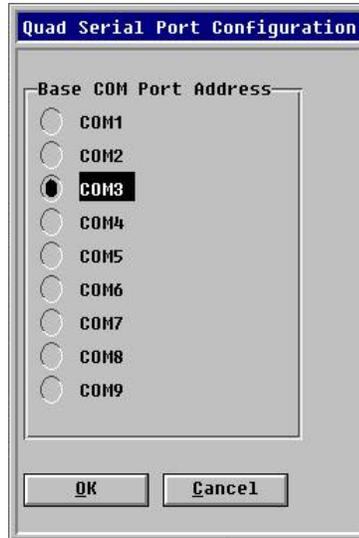

Figure 5-4 Multi-Port Card Configuration Dialog
5. The system displays the **Generic Port Configuration** dialog box shown in Figure 5-4.